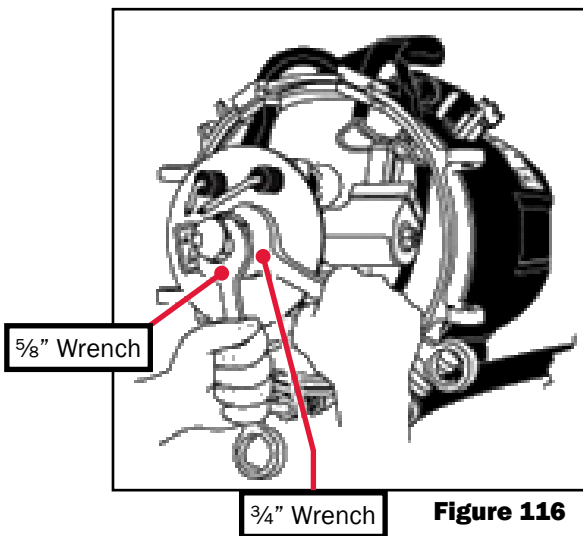

Figure 116
- Install rubber fuel lines on both the supply and return fuel pipes, and install the other end of the rubber fuel lines into an adequate supply of diesel fuel. Reference Figure 116.
1. Use a $\frac{3}{4}$ " wrench to hold the fuel nozzle stand hex while loosening the fuel nozzle with a $\frac{5}{8}$ " wrench and remove as shown in Figure 116.